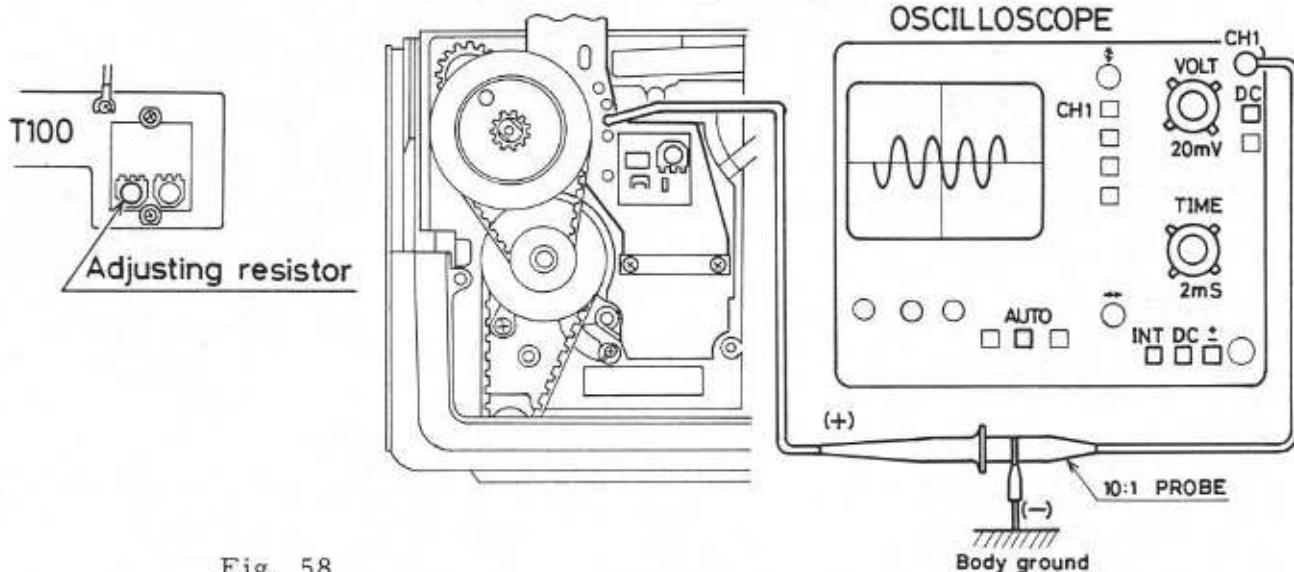

Fig. 58
- 55-5 Connect the body and the Occiloscope as shown in Fig. 58.
- 55-7 Release the shutter. At this time, make sure that the output voltage is displayed on the screen of the Occiliscope as shown in Fig. 58.
- 55-8 The adjustmnet can be made by turning VR as shown in Fig. 58.